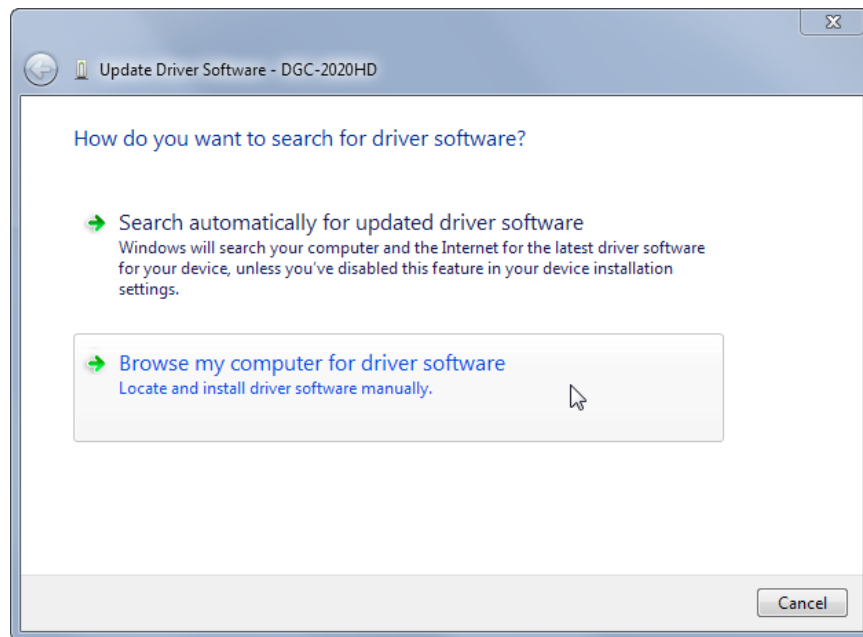

Figure 9-4. Update Driver Software - DGC-2020HD
Step 4. Select Browse My Computer for Driver Software as shown in Figure 9-4.